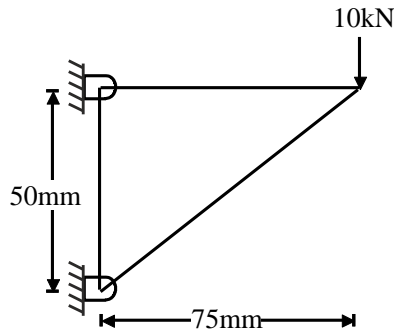

Fig. 4
10. A two dimensional plate is loaded by a 10 kN force as shown in figure 4. The thickness of plate is 15 mm, $E = 2 \times 10^5 \text{ N/mm}^2$ and poisson's ratio $\nu = 0.3$. Determine the nodal displacement. 14